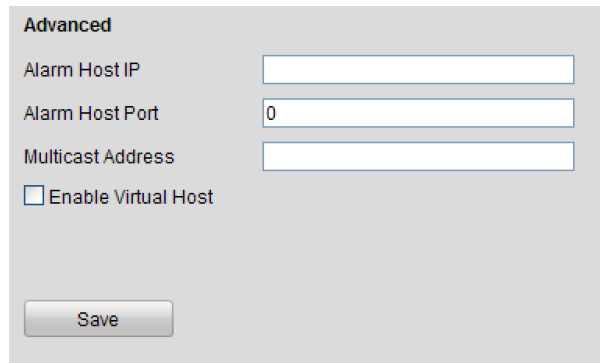

Figure 11-24 Advanced Settings Interface
Step 1 Enter the Advanced settings interface, as shown in the Figure 11-24.